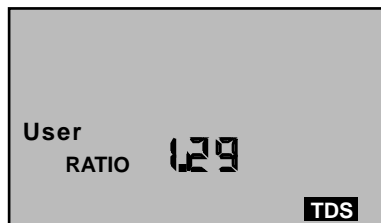

Figure 4
- b. Press **CAL/MCLR** twice (to skip over tempco adjustment), and "RATIO" will appear (see Figure 4).